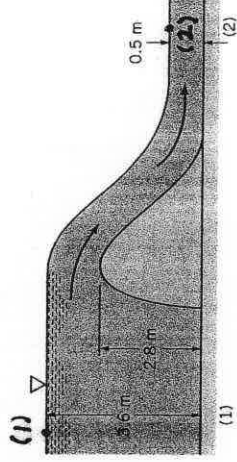

FIGURE P3.71
3.71 Water flows over the spillway shown in Fig. P3.71. If the velocity is uniform at sections (1) and (2) and viscous effects are negligible, determine the flowrate per unit width of the spillway.